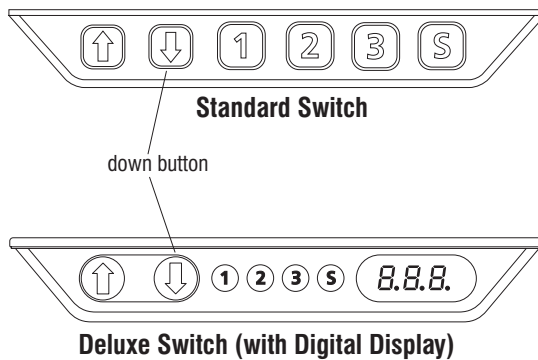
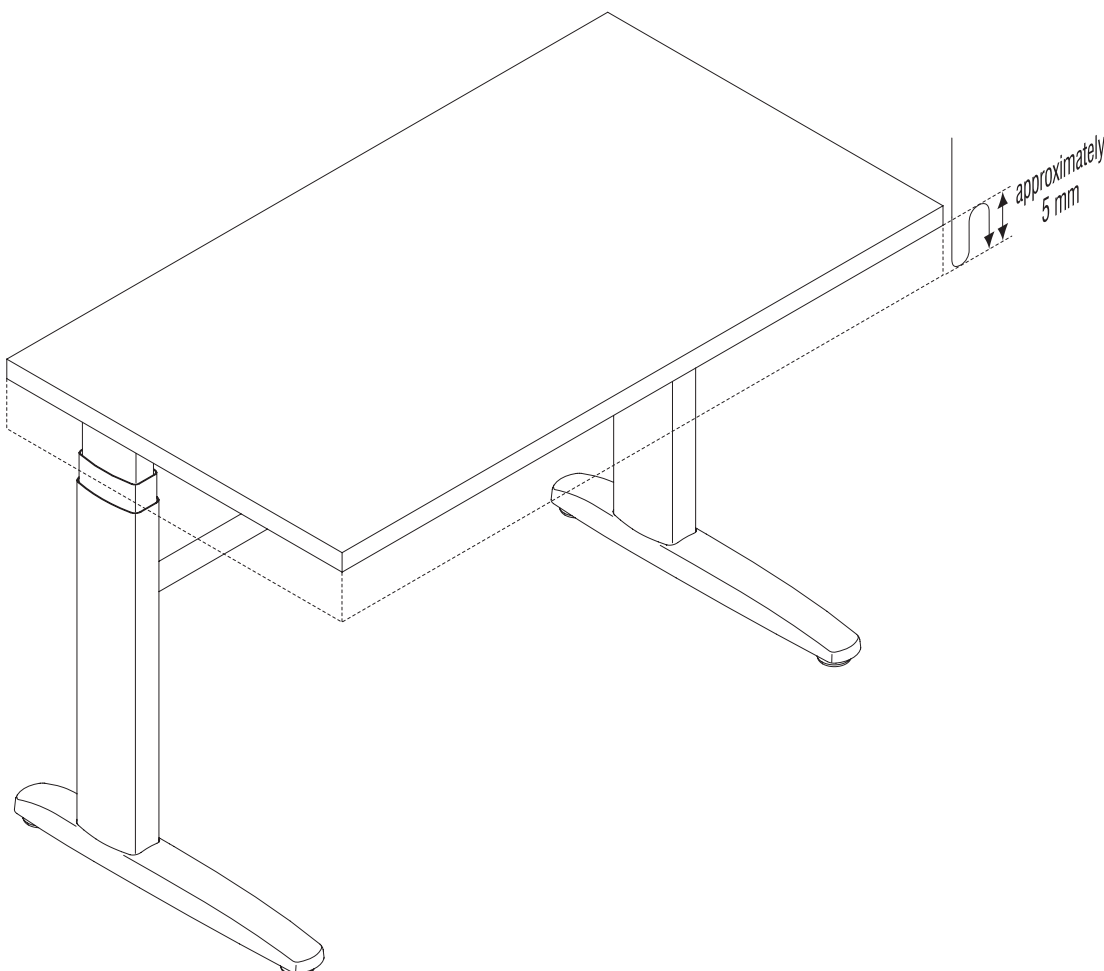

Figure 3
Figure 4
1. Press and hold the Down button on the control switch (Figure 3). The unit will lower to the end stop and stop moving. Release the down arrow. Press the down arrow again, and the unit will raise approximately 5 mm, then slowly lower to the end stop again. Release the button only when the unit has stopped moving completely (Figure 4).